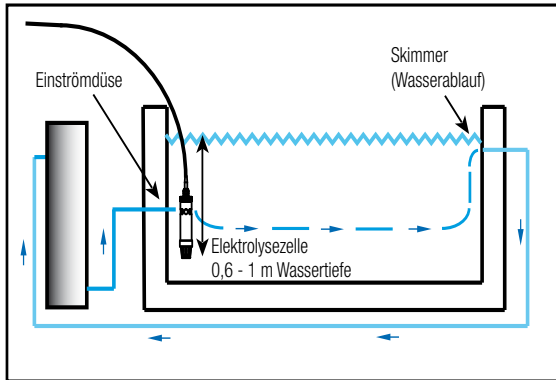

Fig. 7: Installing the electrolytic cell
1. Fasten the electrolytic cell in close proximity to the inflow nozzle and opposite the floor drain or skimmer at a water depth of c. 0.6 to 1 m (see fig. 7).